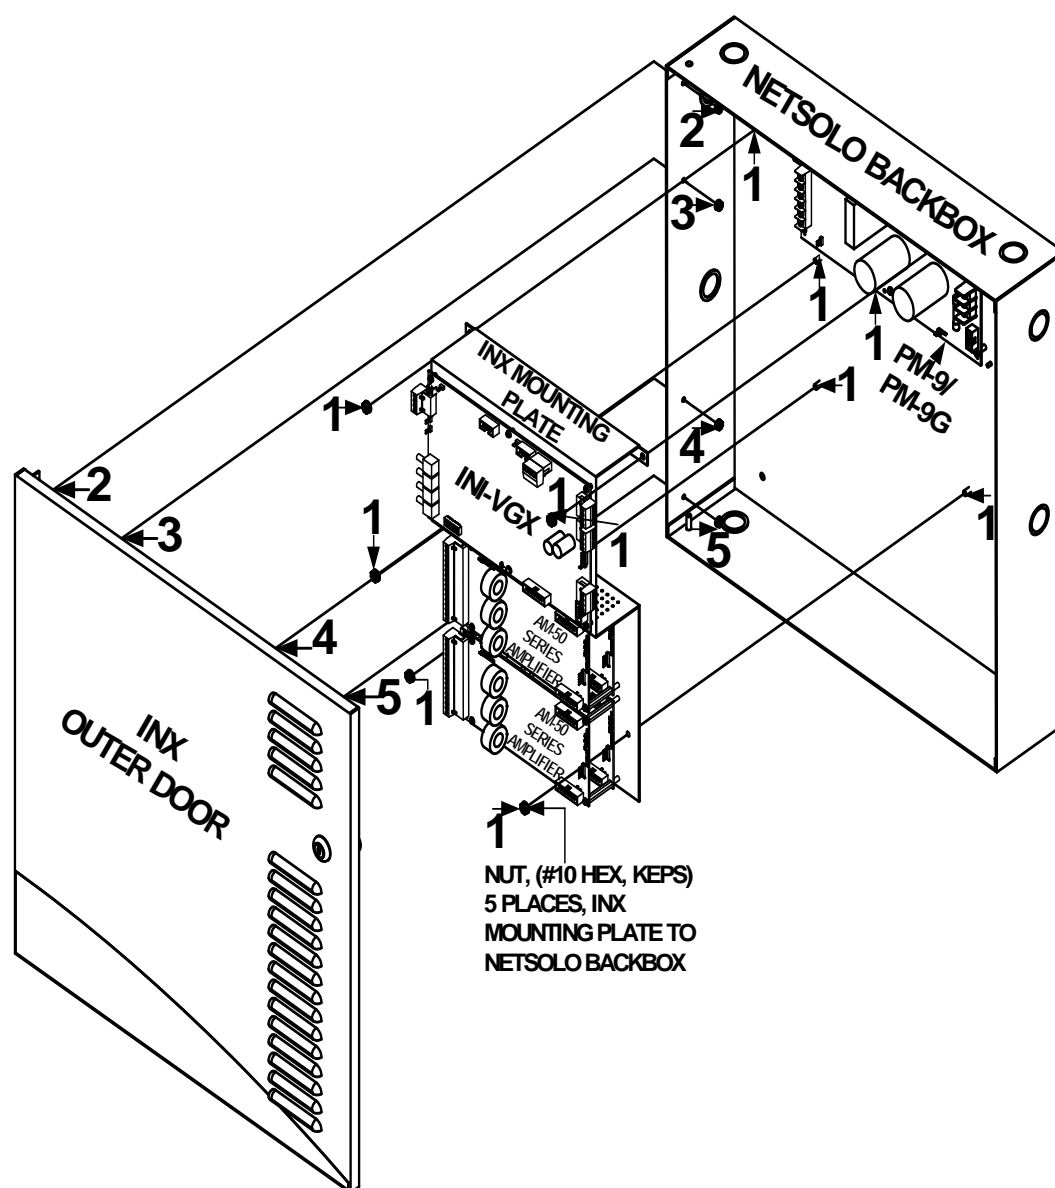

Figure 2.8.4.1 NetSOLO INX Cabinet INX Mounting Plate to Backbox Installation
1. Mount the INX sub-assemblies Mounting Plate to the studs in the backbox and secure with five (5) nuts (#10 HEX, KEPS) as shown in Location 1 of Figure 2.8.4.1.
2. Position and mount the INX Outer Door on the backbox, and secure with four (4), (#10 HEX, KEPS) nuts in the four-hole mounting pattern on the left side of the backbox. See Locations 2 thru 5 of Figure 2.8.4.1.